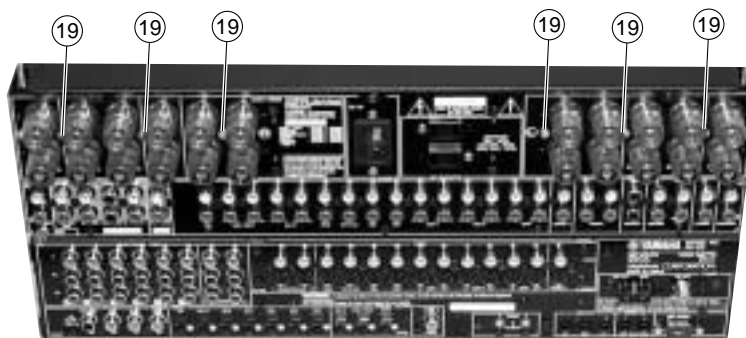
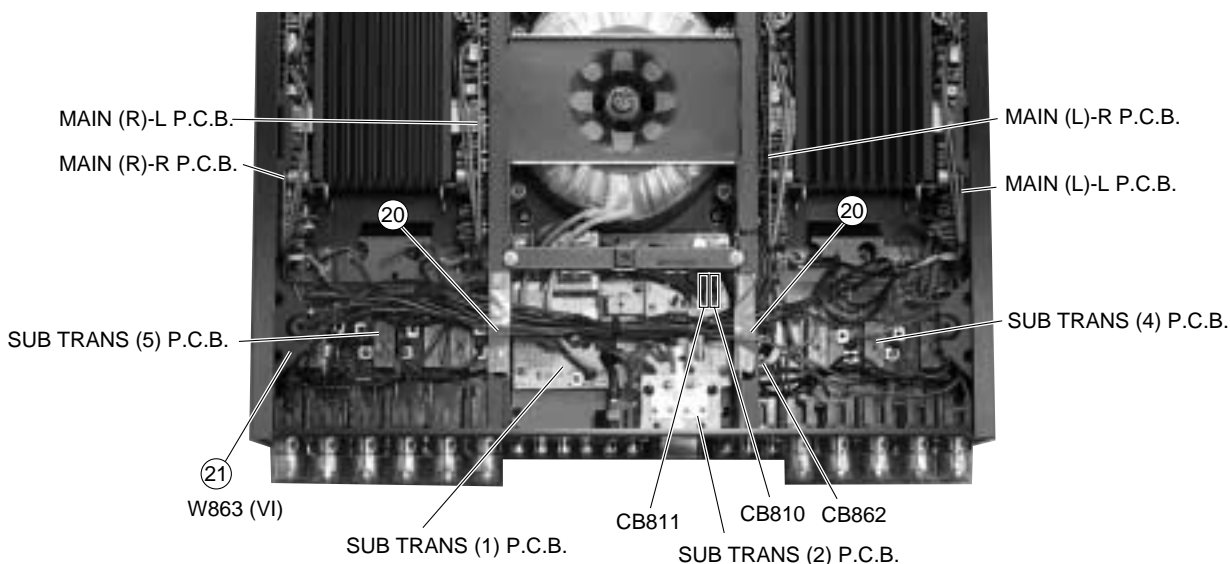

Fig. 8
Fig. 9
7. Removal of SUB TRANS (4) P.C.B. & SUB TRANS (5) P.C.B.
- c. Remove 6 screws (⑱). (Fig. 8)
- d. Remove 2 screws (⑳) and 1 screw (㉑). (Fig. 9)
- e. Remove connectors CB862 (4P), CB810 (13P), CB811 (9P) and CB20 (13P). (Fig. 9, 10)
- f. Remove the SUB TRANS (4) P.C.B. and the SUB TRANS (5) P.C.B. (Fig. 9)
7. SUB TRANS (4) & SUB TRANS (5) P.C.B.の外し方
- c. ⑱のネジ6本を外します。(Fig. 8)
- d. ⑳のネジ2本と㉑のネジ1本を外します。(Fig. 9)
- e. コネクターCB862 (4P)、CB810 (13P)、CB811 (9P)、CB20 (13P)を外します。(Fig. 9, 10)
- f. SUB TRANS (4) & SUB TRANS (5) P.C.B.を取り外します。(Fig. 9)